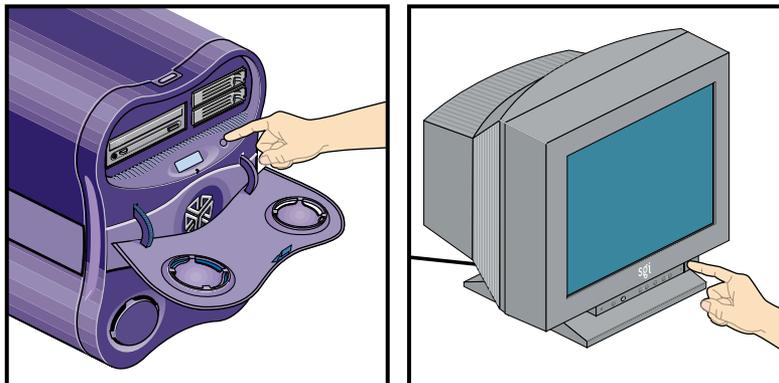

Figure 1-14 Powering Off the Workstation
2. Press the power button, as shown in Figure 1-14.